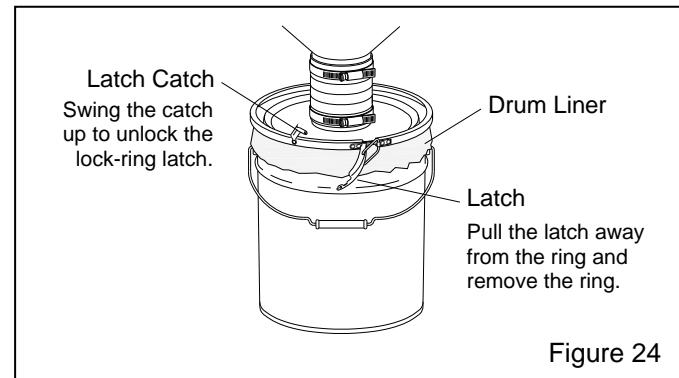

Figure 24
6.1.2 Turn off the exhauster and release the lid lock ring from the dust container as shown in Figure 24.